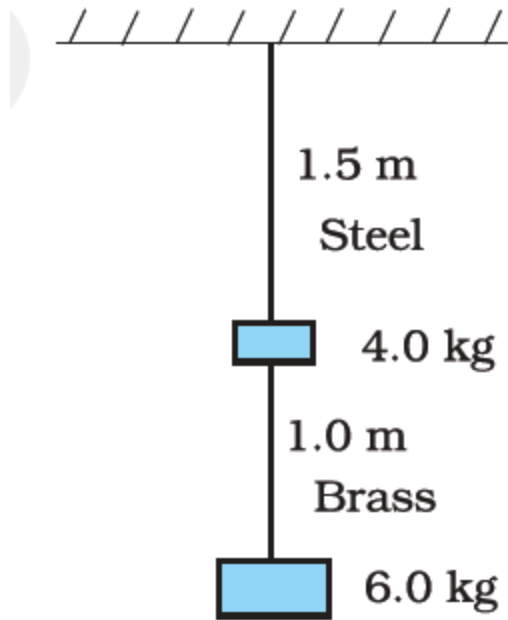

Fig. 9.13
9.5. Two wires of diameter 0.25 cm, one made of steel and the other made of brass are loaded as shown in Fig. 9.13. The unloaded length of steel wire is 1.5 m and that of brass wire is 1.0 m. Compute the elongations of the steel and the brass wires.